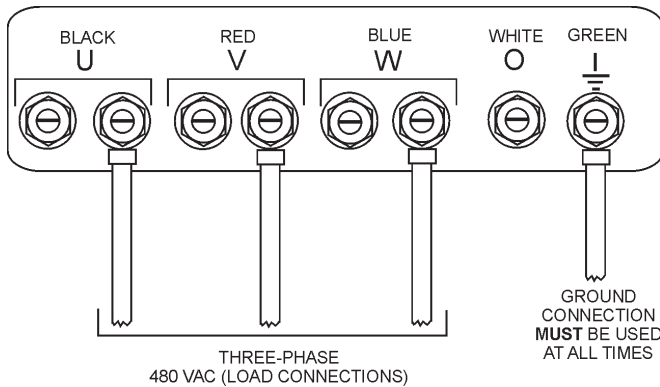

Figure 27. UVWU Terminal Lugs 3Ø-480V Connections
2. Connect the load wires to the UVWU terminals as shown in Figure 27.